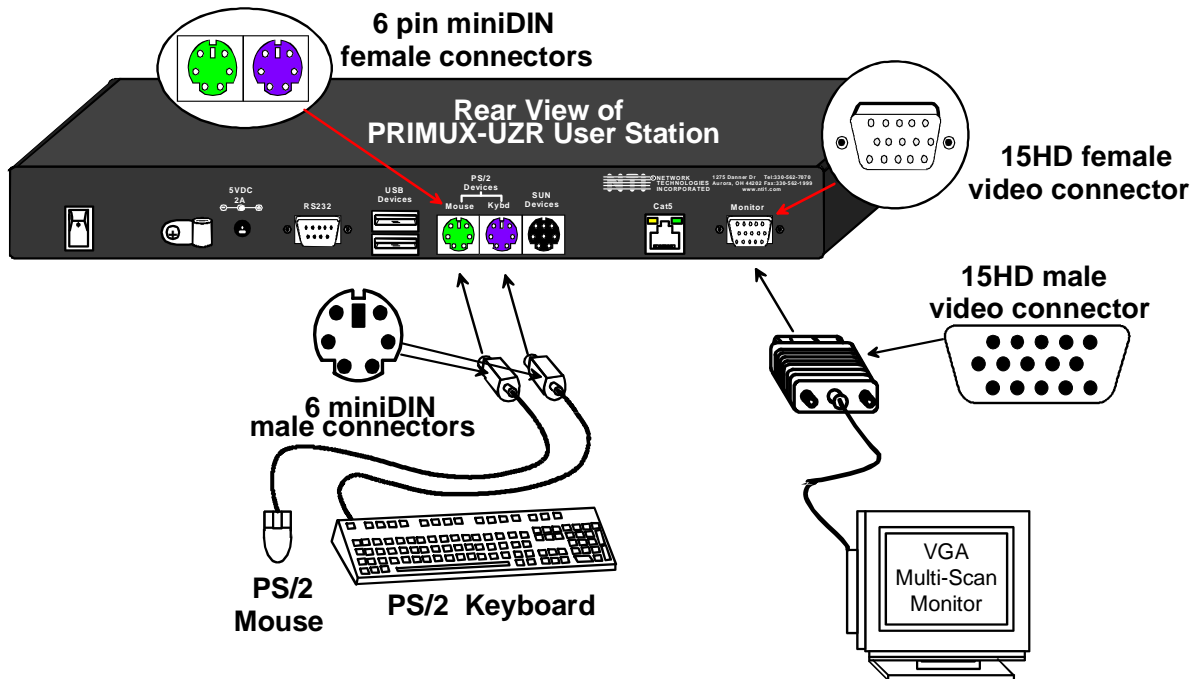

Figure 10- Connect the Extended PS/2 components to the User Station
3. Connect the PS/2 device(s) to the User Station (see Figure 10).